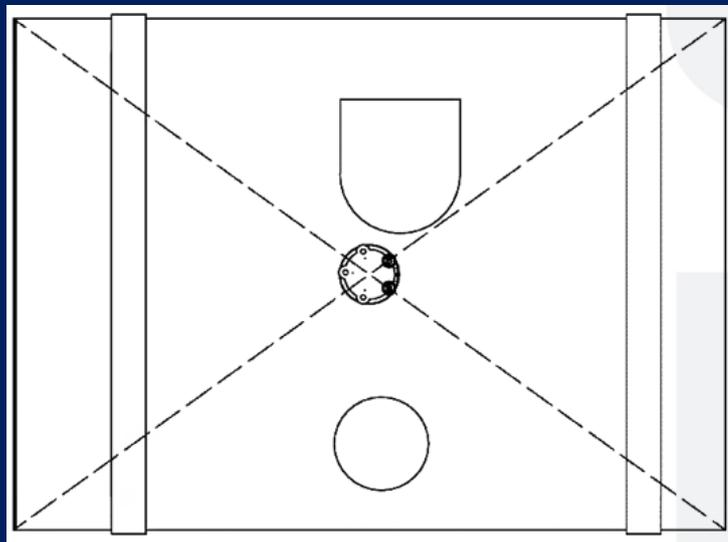
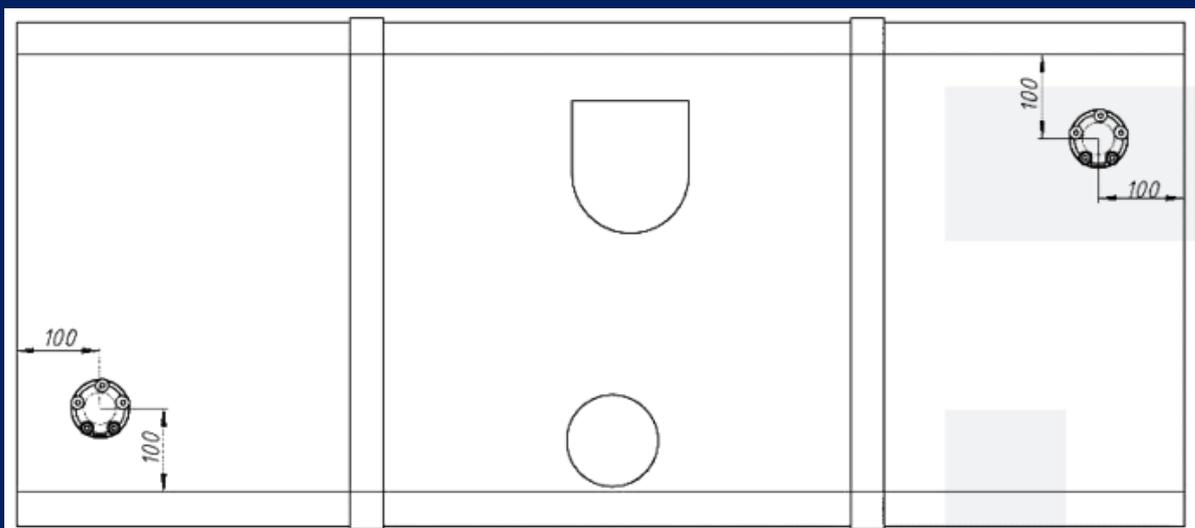

Figure 2 - Installing the BLE FLS in the center of the tank
Figure 3 - Installation of two BLE FLS on the edges of the tank
1. Select the place of sensor installation. It is recommended to install the BLE FLS as close as possible to the geometric center of the tank, avoiding contact with the partitions inside the tank, as well as elements of the fuel intake and the standard fuel level sensor, in order to avoid fuel fluctuations during driving and parking on the clone, in accordance with figure 2. When installing BLE FLS in tanks of complex shape, it is necessary to install the sensor in the deepest part of the tank. In tanks of large volumes ($L=2*H$), it is recommended to install two remote control units diagonally, according to figure 3.